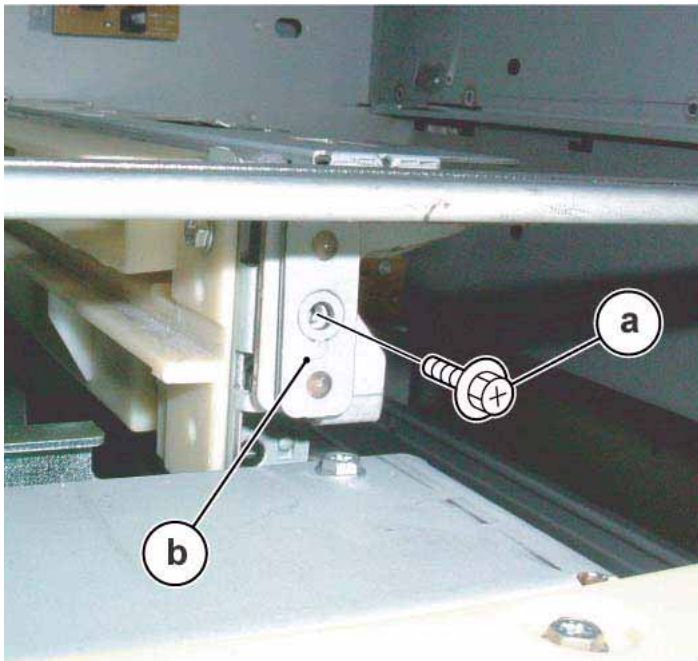

Figure 3 Removing the Pivot Bracket
7. Remove the Pivot Bracket. Figure 3